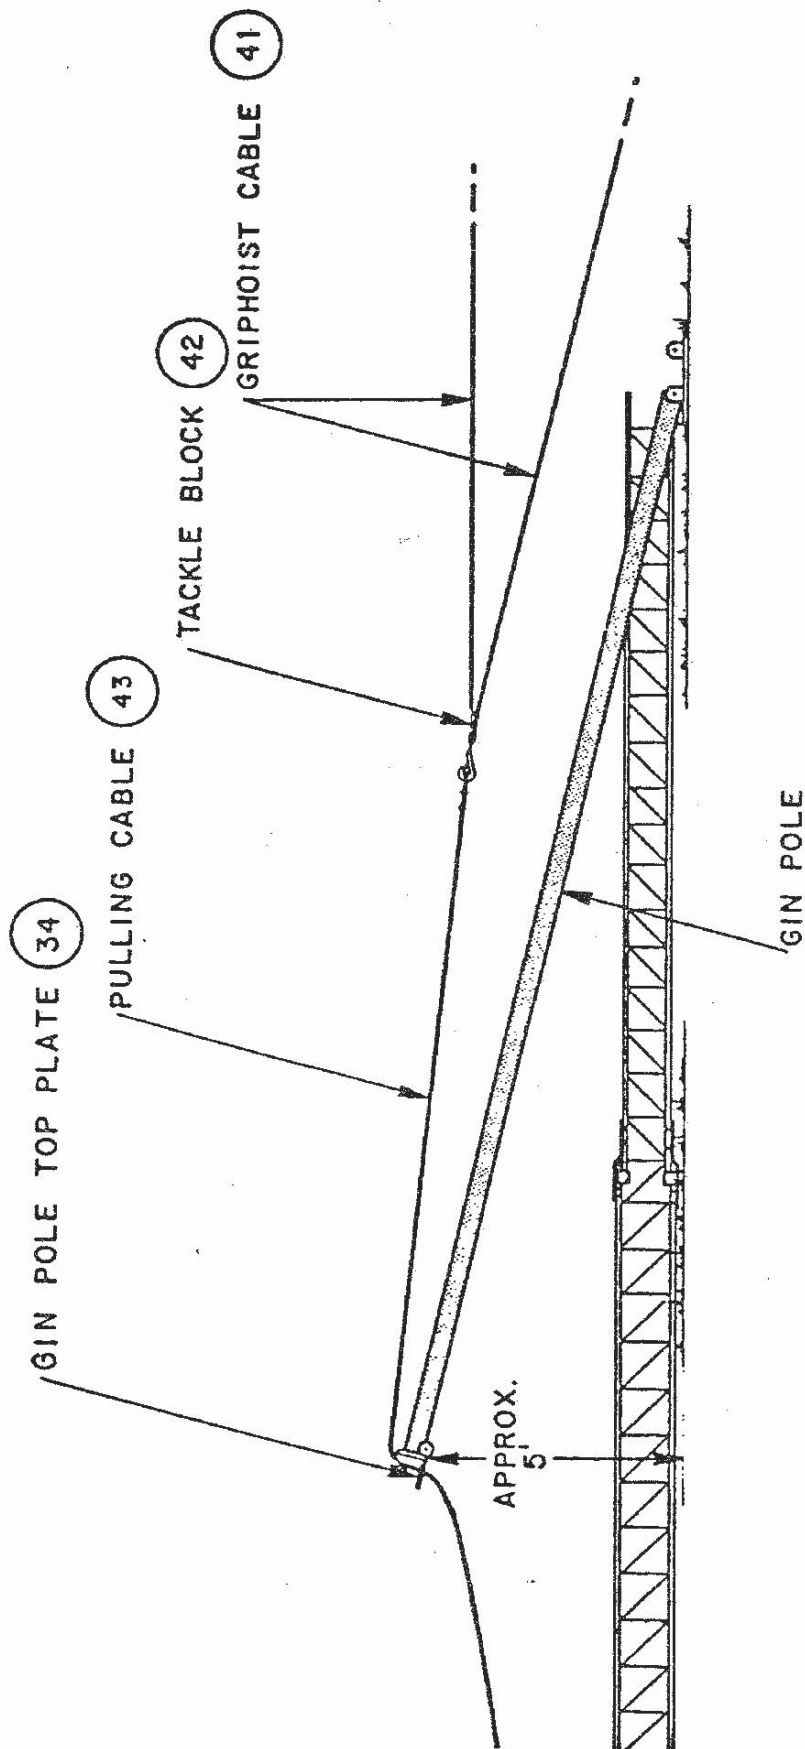

Figure 2-23
- f. Two persons manually lift the gin pole about 5 feet off the ground, as shown in Figure 2-23, making sure the pulling cable rests in the slot on the gin pole top plate assembly and that the wire rope clamps are on the correct side of the slot (Figure 2-21).